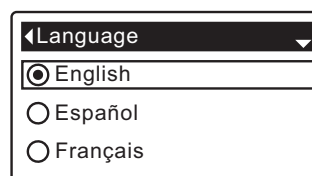

FIG. 53
5. Press the SELECT (O) button to display the Language menu (See Figure 53).
6. If the desired language already has a black dot next to it (See Figure 53), go to Step 7. Otherwise, press the DOWN (▼) or UP (▲) buttons to scroll to the desired language, then press SELECT (O) to choose it. The choices are: English, Spanish, French, Italian, German, Dutch, Polish, Russian, Hungarian, Turkish, Lithuanian, Greek, Romanian, Czech, Slovak, Bulgarian, Serbian or Croatian.